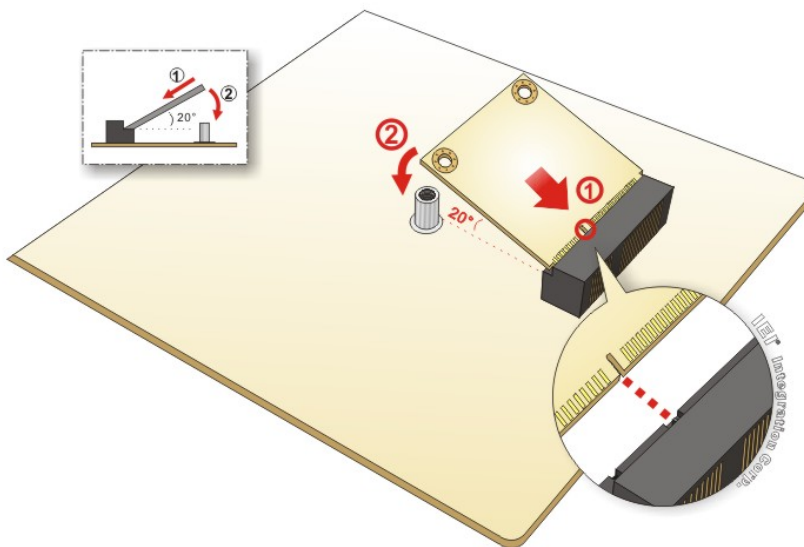

Figure 4-6: Inserting the iRIS-1010 Module into the Slot at an Angle
Step 3: **Insert into the slot at an angle.** Line up the notch on the module with the notch on the slot. Slide the iRIS-1010 module into the slot at an angle of about 20° (Figure 4-6).